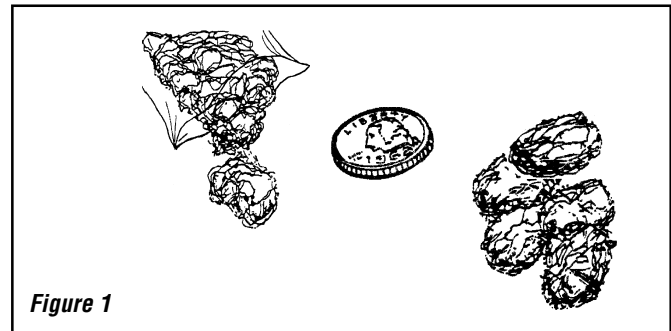
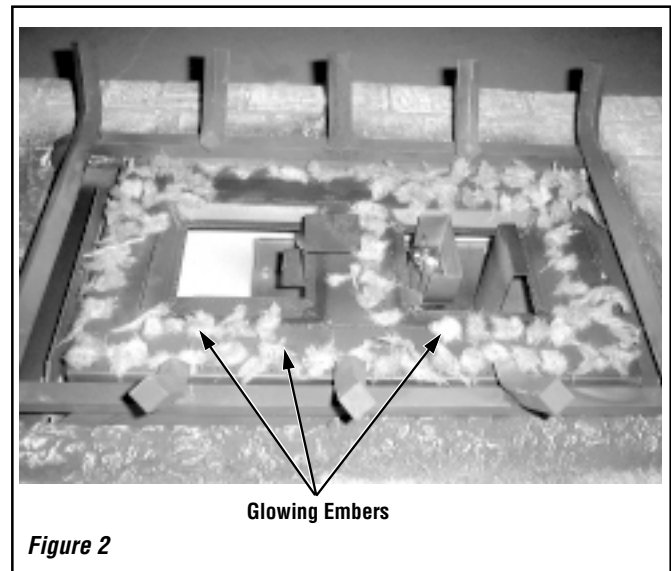

Figure 1
Figure 2
Step 3. Separate the Glowing Ember (Rockwool) into pieces about the size of a quarter **Figure 1.** Keep the pieces fluffed up, not matted. Distribute these pieces over the front surface of the burner, as shown in **Figure 2.** Do not use more than is necessary. When properly positioned, the Glowing Embers will cover approximately 65% of the front burner and with no appreciable gaps or openings. Ensure that the main burner ports remain uncovered by the ember material.